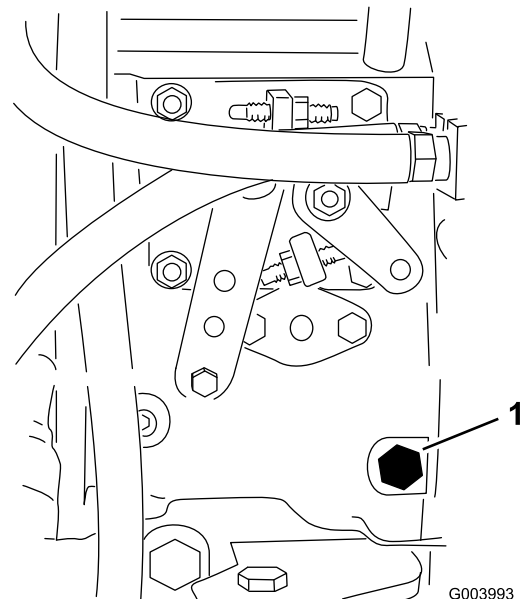

Figure 30
3. Open the air bleed screw on the fuel injection pump (Figure 30) with a 12 mm wrench.